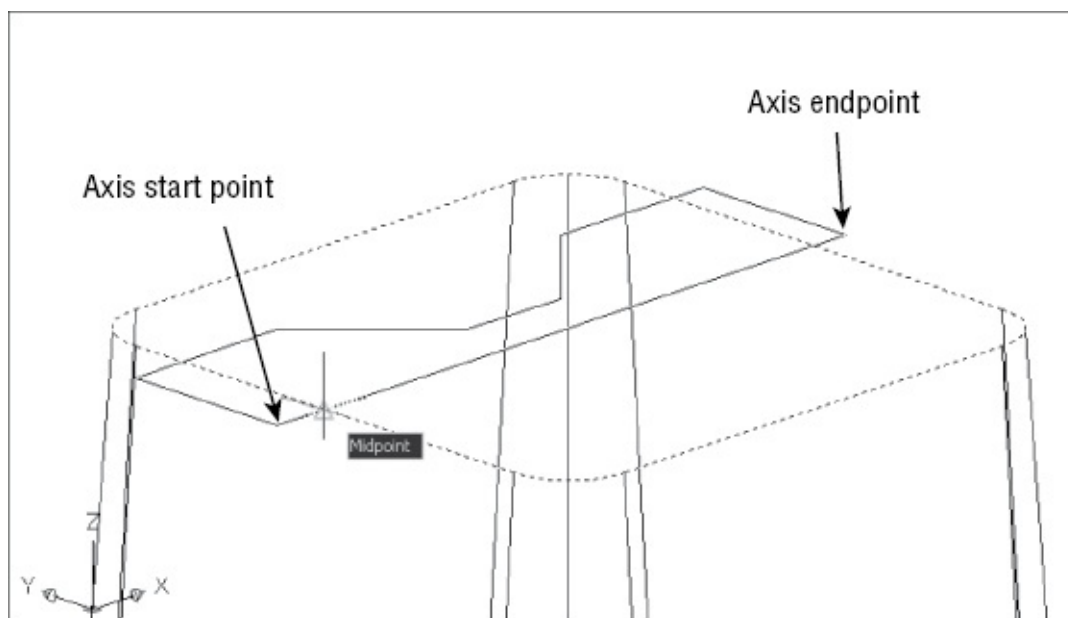

FIGURE 22.11 An enlarged view of the top of the tapered box and pasted polyline
2. Zoom in to the top of the tapered box so that you have a view similar to Figure 22.11.
the polyline that you just added, as shown in Figure 22.11.
7. At the Specify axis endpoint: prompt, pick the axis endpoint indicated in Figure 22.11.